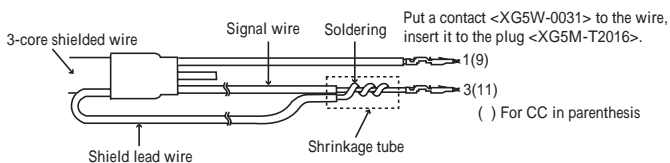

Figure 3-22
- \* Solder the shield wire and the signal wire connected to external control terminals (pin number 3 and 11). Insulate the soldered part with an insulation shrinkage tube. See Fig. 3-22.